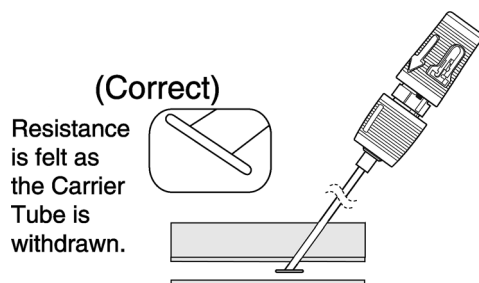
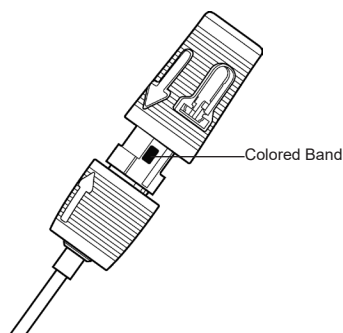
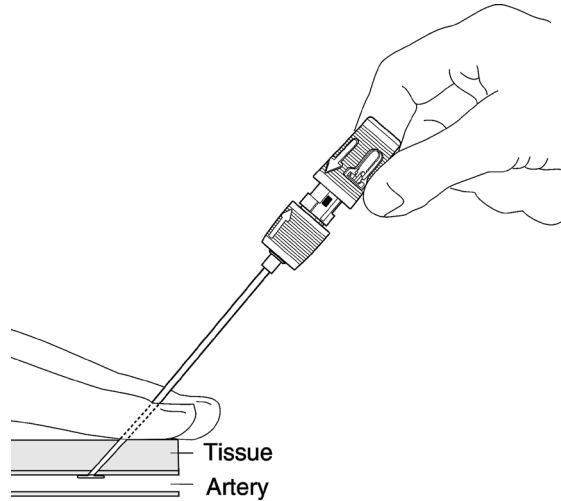

Fig. 9 (Correct)
Fig. 10
Fig. 12
- Maintain grip on the insertion sheath and pull the device handle straight back into the full rear locked position (Figure 10). Resistance will be felt as the device handle and sleeve snap lock. The device sleeve colored bands should now be completely visible.
NOTE: Do not proceed until you are certain that the anchor has been properly deployed (Figure 9). If the anchor is improperly deployed, the Angio-Seal device will not function.
1. Once the anchor has been deployed correctly (Figure 9), and the device cap has been locked into the rear position (Figure 10), slowly and carefully withdraw the device/sheath assembly along the angle of the puncture tract to position the anchor against the vessel wall (Figure 12).